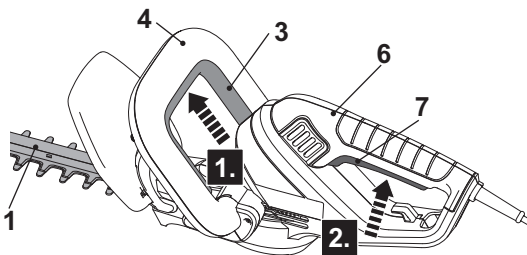

Fig. 4
1. Ensure the cutting device (blade) (1) does not touch any objects. Remove the blade cover (11) from the cutting device (blade) (1) before switching the product on.
2. Hold the product with one hand on the front handle (4) and the other hand on the rear handle (6).
3. Squeeze the safety switch (3) and hold it in position (Fig. 4, step 1).
4. Squeeze the on/off switch (7) to switch the product on (Fig. 4, step 2).
5. Release either the on/off switch (7) or the safety switch (3) to switch the product off.